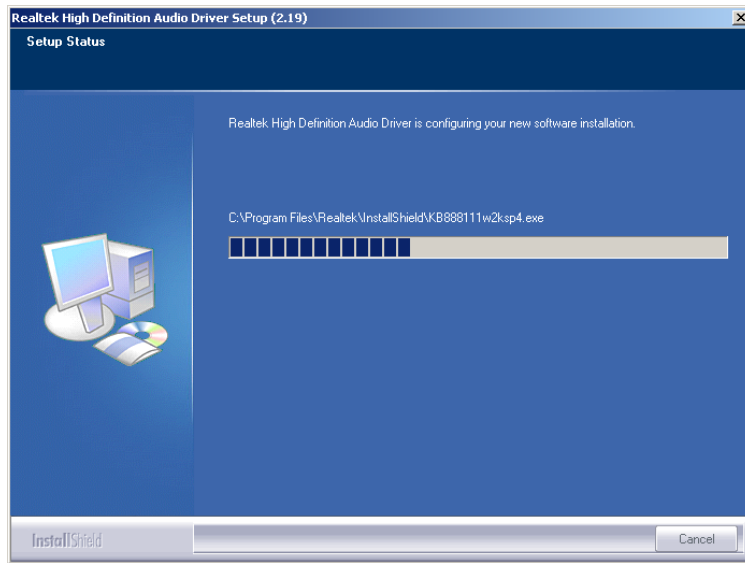

Figure 7-33: Audio Driver Software Configuration
Step 11: InstallShield starts to install the new software as shown in **Figure 7-33**.